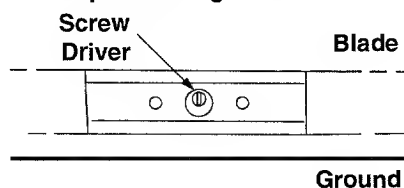

Figure 13
- Test the blade by balancing it on a round shaft screwdriver or a blade balancer. See Figure 13.